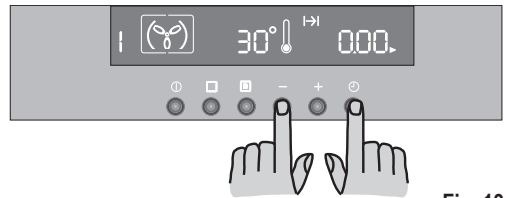

Fig. 13
- press button "" to decrease the time until "0.00" is displayed (Fig. 13).